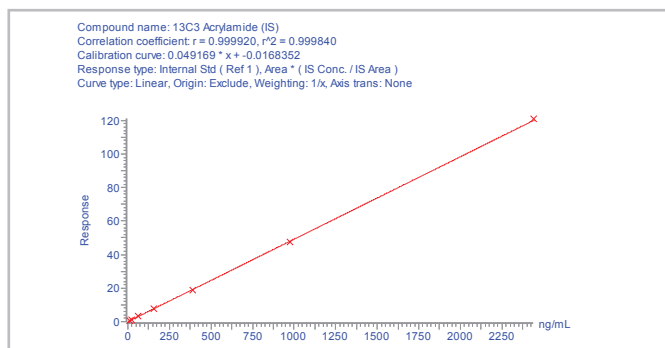

Figure 3. Calibration curve for $^{13}\text{C}_3$ Acrylamide in ground coffee, expressed on a linear scale. See additional notes below.
- » Sensitive acrylamide calibration could not be directly demonstrated in crisps due to the presence of large levels of process produced analyte within the matrix giving a substantial intercept to the calibration line and inferior precision at low levels as a result. To demonstrate that analysis of acrylamide and its tri ^{13}C equivalent was sensitive and consistent the calibration line was prepared of the internal standard, $^{13}\text{C}_3$ acrylamide instead. Spiked acrylamide was added to the process produced acrylamide already present within the crisps and used as the internal standard. See **Figure 3**.